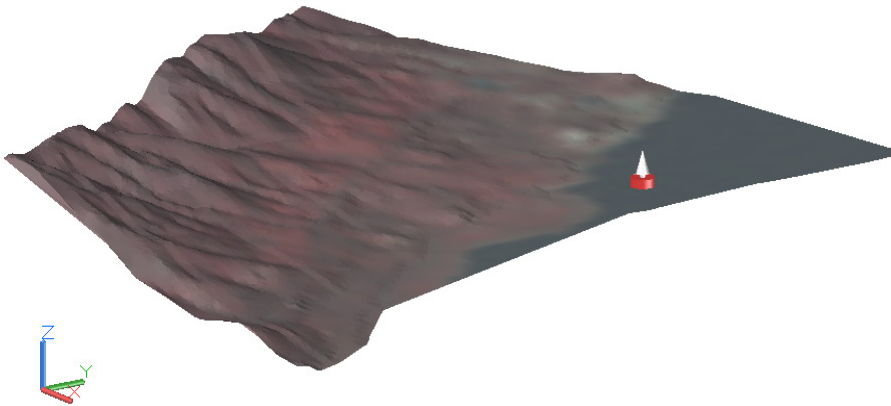

Figure 3-81 The surface with the draped raster image
4. Choose the **Orbit** tool from the **Navigation 2D** panel of the **View** tab and orient the drawing to a suitable viewing angle. Exit the **Orbit** tool by pressing the ESC key. The drawing area now shows the surface with draped raster image, as shown in Figure 3-81.